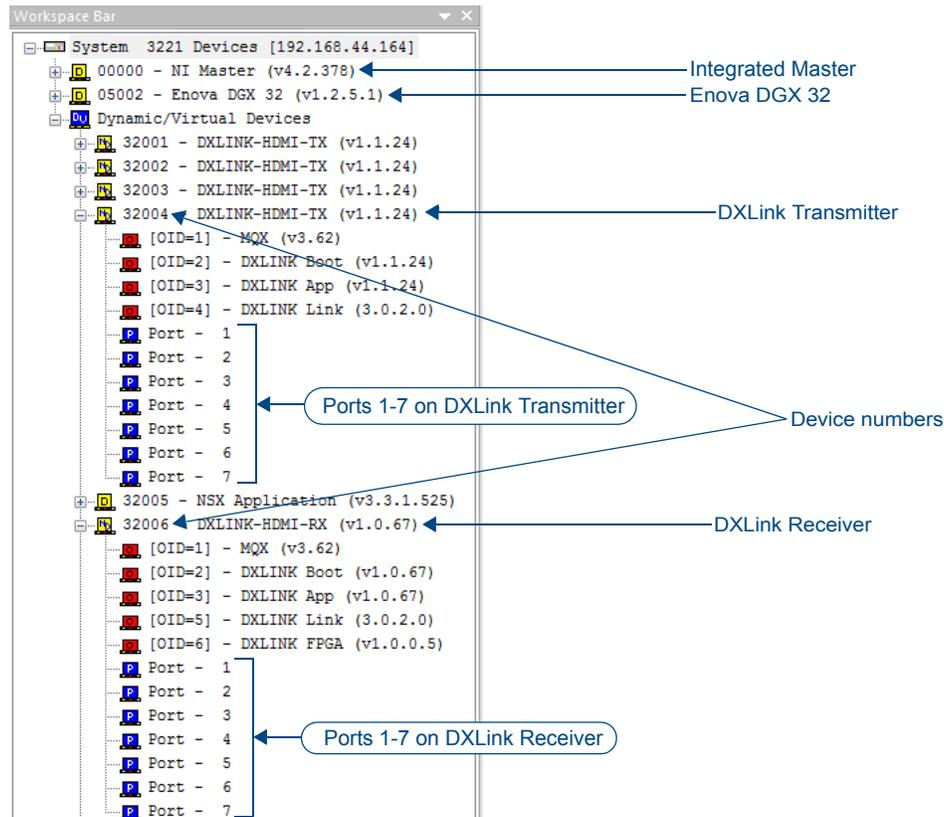

FIG. 40 NetLinX Studio – Integrated Master, Enova DGX 32, DXLink Transmitter, and DXLink Receiver
When a Transmitter and/or a Receiver are being used in conjunction with a switcher as an endpoint system, the switcher's integrated Master is used for the KIT file transfer. FIG. 40 shows a Transmitter and a Receiver bound to the integrated Master in an Enova DGX 32 in NetLinX Studio's OnLine Tree. Follow the instructions on the top of page 104 to prepare an endpoint system for KIT file transfer and the instructions on page 107 for the actual transfer.
7. Determine the Device Number assigned to the target Transmitter or Receiver when it was bound. For the Device Number location, see FIG. 40 on page 103. The Transmitter or Receiver is ready for the KIT file transfer.
7. Right-click in the workspace and select Refresh System OnLine Tree. The module will appear in the OnLine Tree and locate the DXLink Module and the virtual device ID assigned to it (32002 in the example). For the Device Number location, see FIG. 40 on page 103.